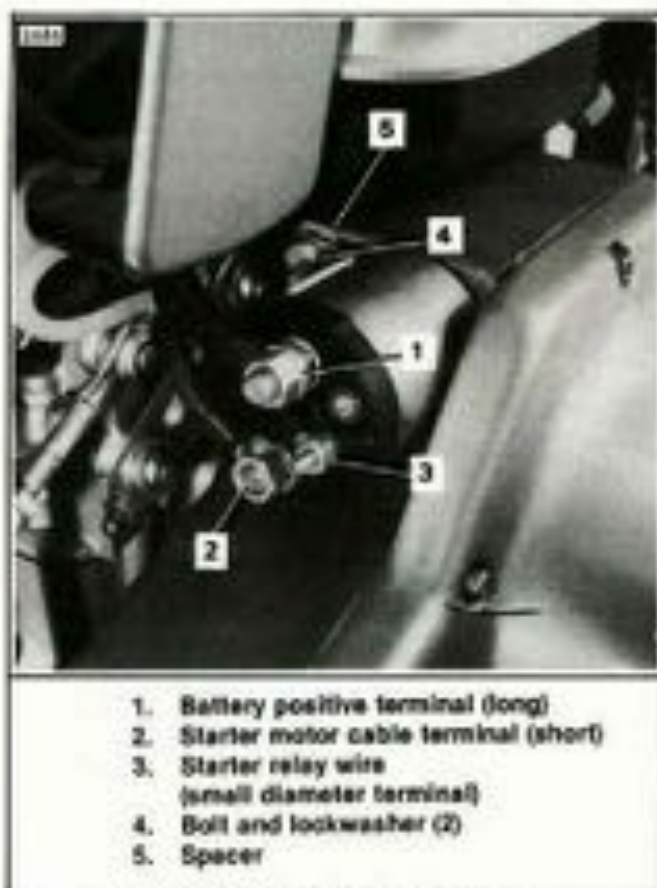

Figure 5-23. Removing Solenoid
1. See Figure 5-23. Disconnect wires 1, 2 and 3 from the solenoid.
## REMOVAL (Figure 5-23)
## INSTALLATION (Figure 5-23, 5-24)